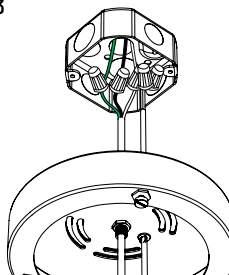

Figure 4
5. Attach cylinder cap to junction box with screws (included). (Figure 4)